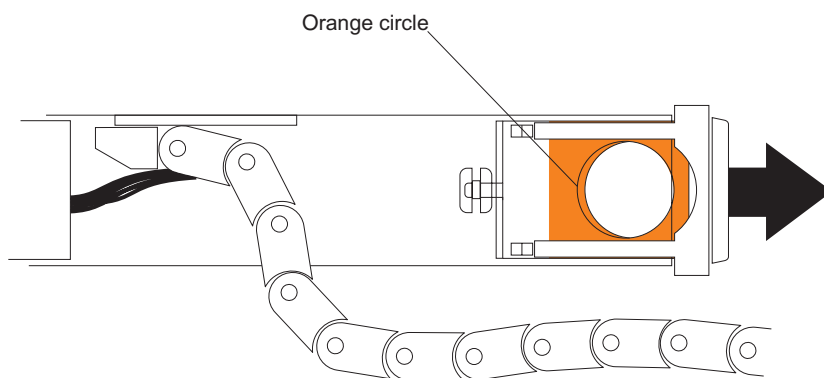

Figure 87. Horizontal mounting bracket that connects to the drive drawer
- d. Disconnect the right cable chain mounting bracket from the drive drawer. Hold the orange handle (see Figure 87), and pull the mounting bracket completely out of the drive enclosure. Remove the right cable chain.